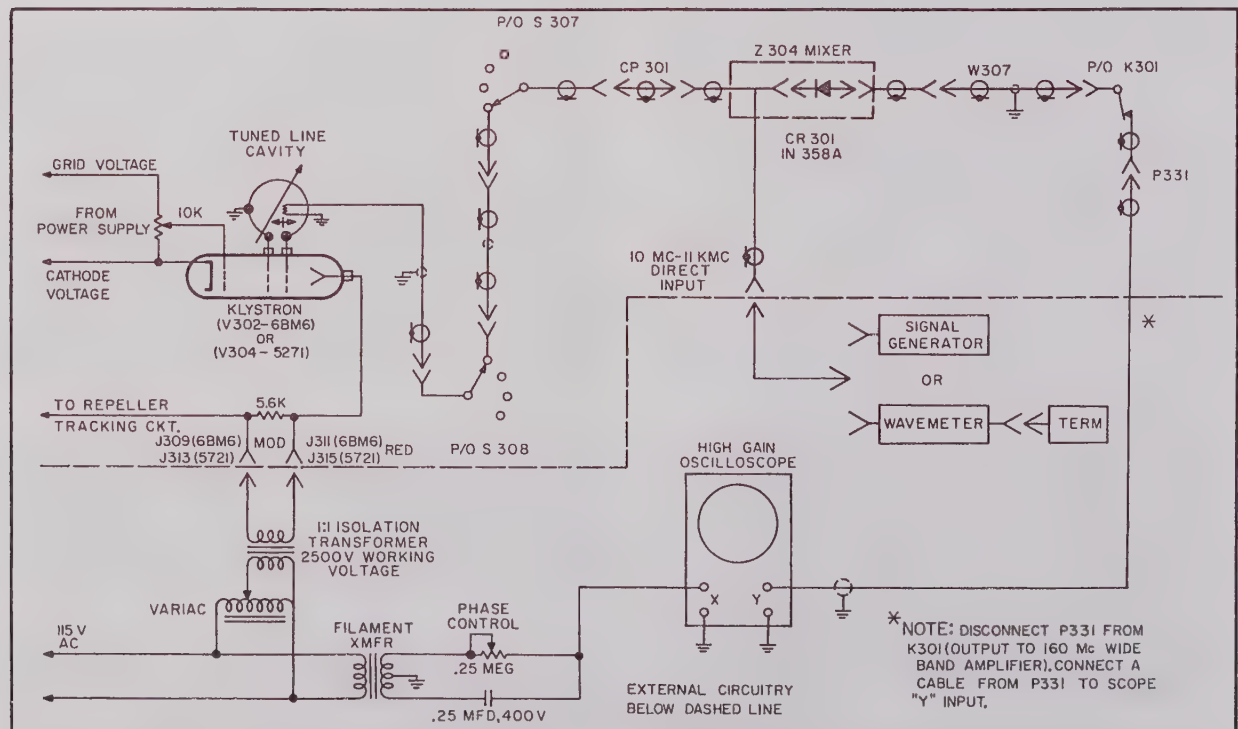

Figure V-24. External Circuitry Hook-Up for Alignment of Tracking Potentiometers and Cams. (Klystron Cavity Alignment)
2. Klystron Repeller Voltage Modulator. The apparatus needed for this piece of test equipment may be fabricated very easily in any lab. The items and their hook-up are illustrated in Figure V-24.
(1) The repeller mode will appear similar to that shown in Figure V-27 when an open circuit exists in the test set up shown in Figure V-24. The usual causes of this trouble are: broken resistors in the cavity probes, open grounds anywhere in the circuit, poor contact in any of the switches.
The alignment and calibration of the 5721 klystron cavity is performed in the same manner as described for the 6BM6 cavity. The pertinent test points, adjustments and operating frequencies are described in this paragraph. Connect the test set-up shown in Fig. V-24.